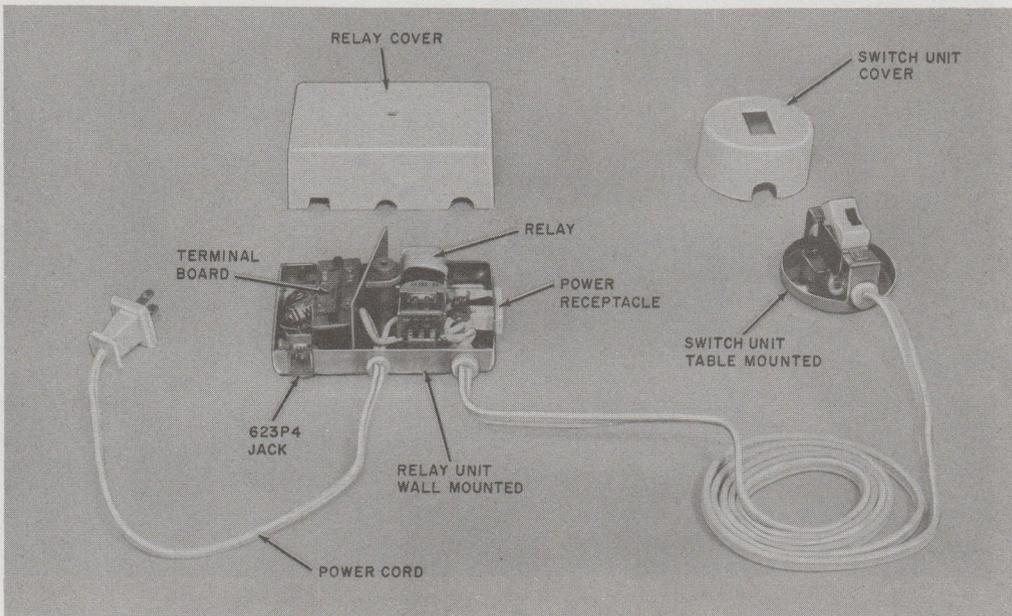

Fig. 11—KS-20614, List 1 Relay Switch
3.11 KS-20614L1 Relay Switch (Fig. 11 and 31):